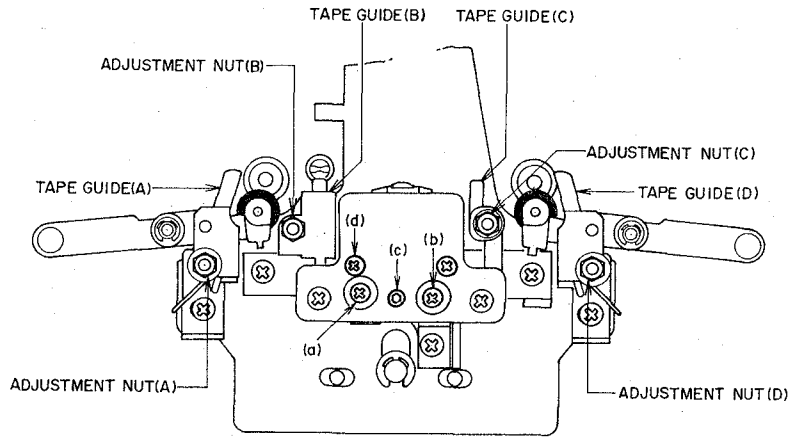

Fig. 15
(Refer to Figs. 15, 16, 18)
(Refer to Figs. 15, 18)
- 1) Set 1-1) cassette pack and let the tape run. Adjust with screw (c) in Fig. 15 so that the tape touches on face of the REC/PB head evenly.
Adjustment (Refer to Figs. 15, 17, 18)
- 1) Set 1-1) cassette pack and advance past the leader tape in the forward mode. Adjust screw (a) in Fig. 15 so that the upper part of the tape meets the upper part of the left channel core of the head. Then put into reverse mode. Adjust screw (b) in Fig. 15 so that the lower part of the tape meets the lower part of the left channel core of the head.
- 2) Attach an AC voltmeter to the LINE OUT jack. Playback the head height adjustment tape (4 track, 1,000 Hz) in the forward mode and adjust minutely with screw (a) in Fig. 15 until the output level for both the right and left channels reaches maximum (the voltmeter reads maximum). Carry out exactly the same minute adjustment with screw (b) in Fig. 15 for the reverse mode.
Adjustment (Refer to Fig. 15)
- 1) Playback the azimuth adjustment tape (10 kHz) in the forward mode and adjust screw (d) in Fig. 15 until the output level of both channels reaches maximum (the AC voltmeter registers maximum).
- 2) Put in reverse mode and check that the output level is the same as in the forward mode. If different, adjust with screw (d) in Fig. 15 until the level is the same in both modes.